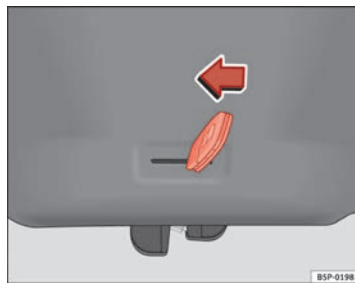

Fig. 68 Tailgate: emergency open
- Insert the key in the groove and unlock the locking system, turning the key from right to left, as shown by the arrow ⇒ fig. 68. ■